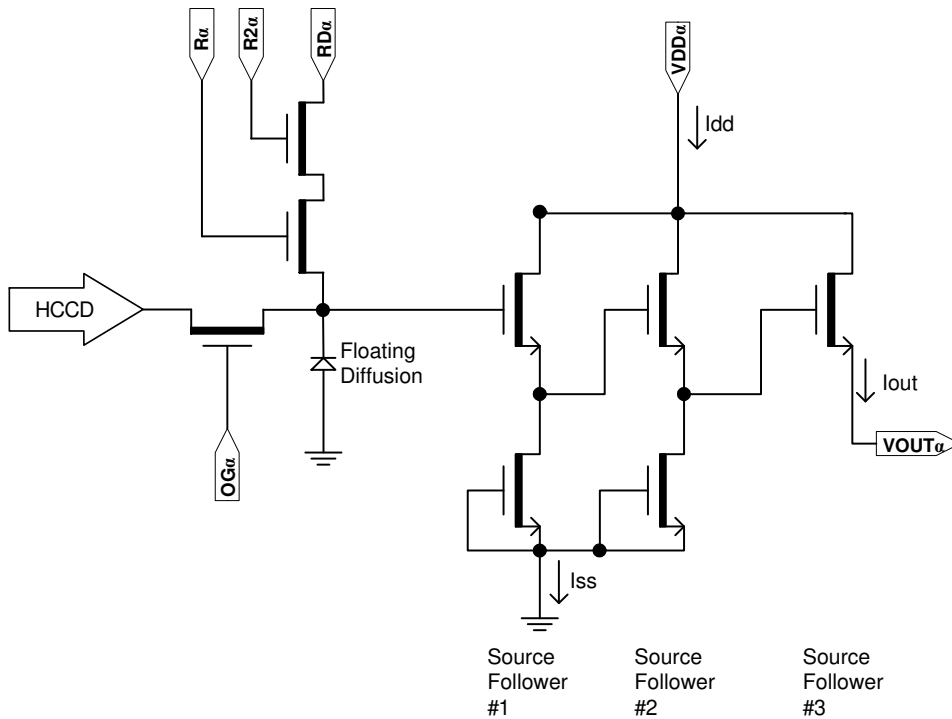

Figure 21. Output Amplifier – Showing Dual Reset Pins
- The maximum DC current is for one output. I_{dd} = I_{out} + I_{ss}. See Figure 21.